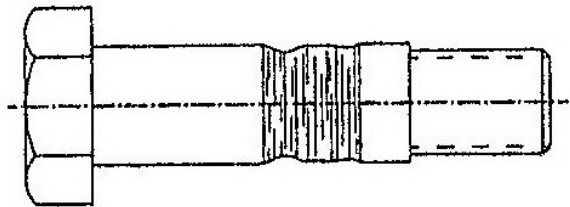
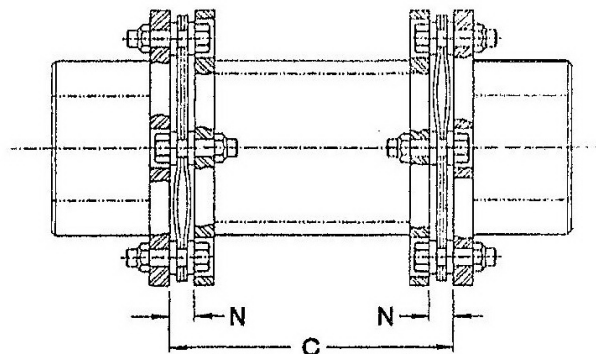

Figure 6 Do not turn the bolt during the locknut tightening process.
Figure 9 The disk pack has a bulge between the bolts, or is bowed toward one flange in alternate chord positions.
2. Disks are embedded in the bolt body. This is usually the result of a loose bolt or severe torque overloads. This can also appear when turning the bolt during installation. Replace the bolt and tighten the locknut to the specified torque. Do not turn the bolt during the locknut tightening process. See Figure 6.
5. The disk pack has a bulge between the bolts, or is bowed toward one flange in alternate chord positions as shown in Figure 9, bolts are bent, or bolts are damaged as shown in Figure 6. This condition is a result of a large torque overload induced into the system above the peak overload capacity of the coupling. The remaining disk pack chordal sections will be very straight and tight. If the bulge appears in only one chordal section, there might be a loose bolt on one side of the distortion. Loosen all locknuts and unseat the bolts. The bulge should release and flatten out. If so, retighten the locknuts. If the distortion does not disappear, replace both disk packs and retighten the locknuts. If there is a synchronous motor driver, measure the startup torque at the motor shaft with strain gages to determine if torsional resonance causes overload torque that exceeds the peak torque capacity of the coupling. Check the coupling selection and apply the proper size and type of coupling for the characteristics of the application.